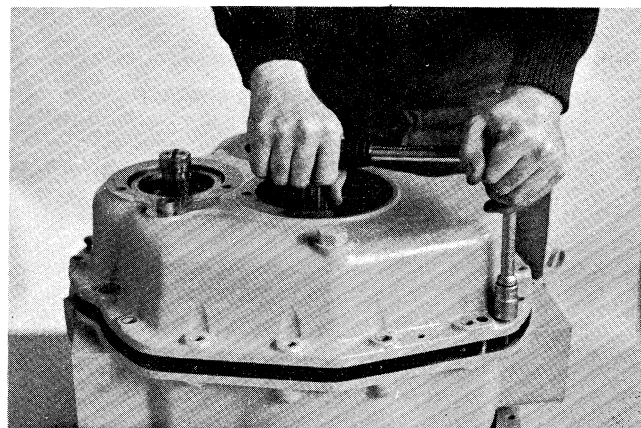

Fig. 15 . Using Pusher Screws to remove Rear half housing
B. Use a bearing puller with a flat steel spacer, and remove the bearing cones (fig. 15, 18) of the output shaft group of parts.